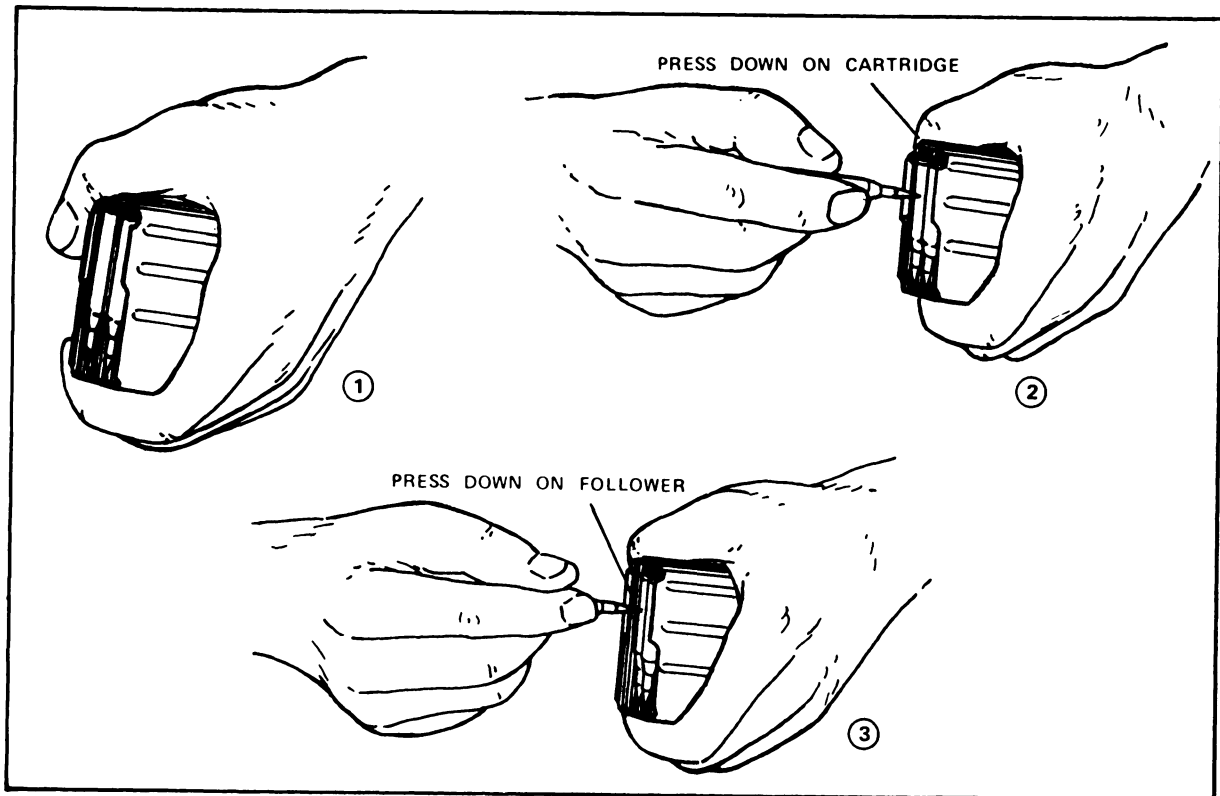

Figure 3.
- a. Hold the magazine in the left hand with the open end away from the body, nose of the cartridge down (fig. 3, step 1).
- b. Using the nose of a cartridge, depress the center of the second round in the magazine allowing the first round to drop out of the magazine (fig. 3, step 2). This process is repeated until all rounds have been removed from the magazine except the last.
- c. To remove the last round, use the nose of a cartridge and depress the follower allowing the last round to drop out of the magazine (fig. 3, step 3).